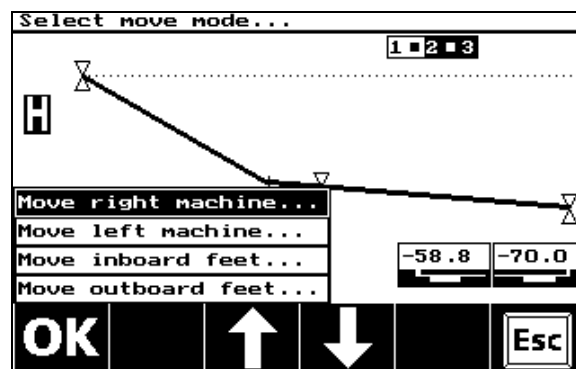

Figure 7
- 17b) A window now appears asking you which Move option you desire (see Figure 7). Select "Move right machine..." and press . Wait for the Move function to autostart and proceed with performing the move.